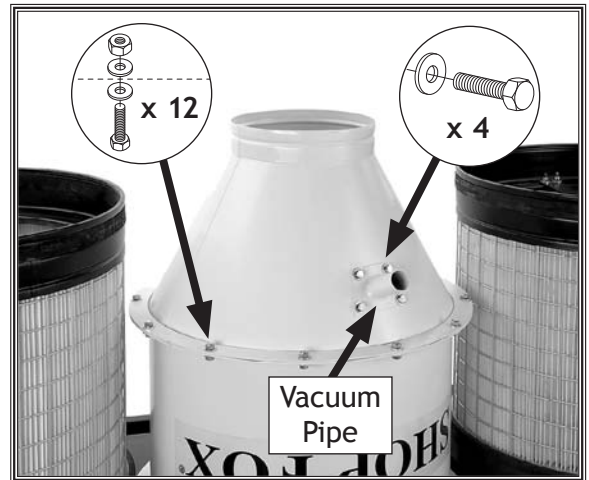

Figure 11. Cyclone funnel attached and the funnel vacuum pipe installed.
5. Attach the cyclone funnel to the intake barrel with (12) $\frac{5}{16}$ "-18 x $\frac{3}{4}$ " hex bolts, (24) $\frac{5}{16}$ " flat washers, and (12) $\frac{5}{16}$ "-18 hex nuts, as shown in **Figure 11**.
6. Install the funnel vacuum pipe into the hole provided on the side of the funnel with (4) $\frac{5}{16}$ "-18 x $\frac{3}{4}$ " hex bolts and (4) $\frac{5}{16}$ " flat washers, as shown in **Figure 11**.